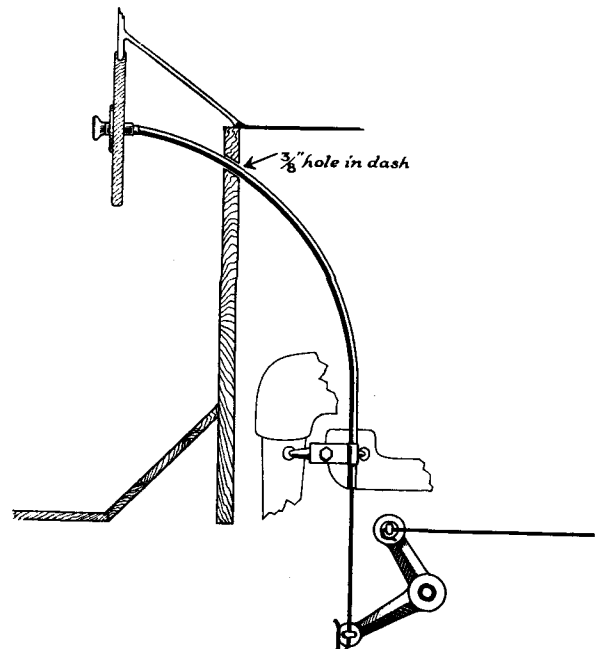

FIG. 15
9. With carburetor choke lever in normal running position, bend the brass wire, with round-nosed pliers, to form a right-angle open bend, as shown in Fig. 15.